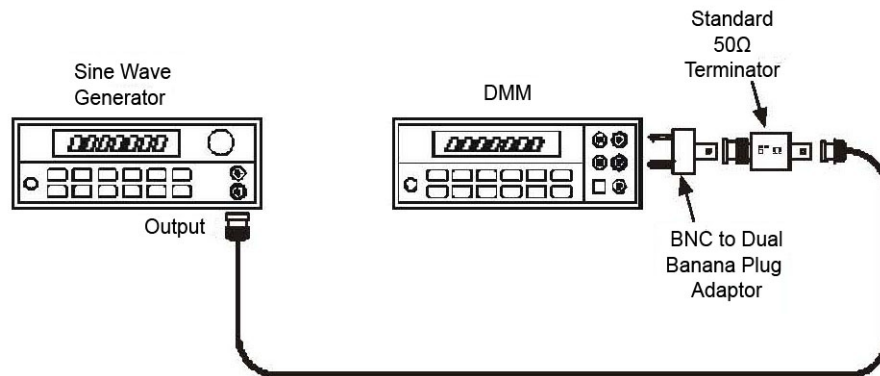

Figure 14, ± 10 Attenuator Accuracy Test Setup 1.
4. Connect the terminated output cable from the sine wave generator to the DMM using the BNC to Banana Plug adapter. Refer to Figure 14.